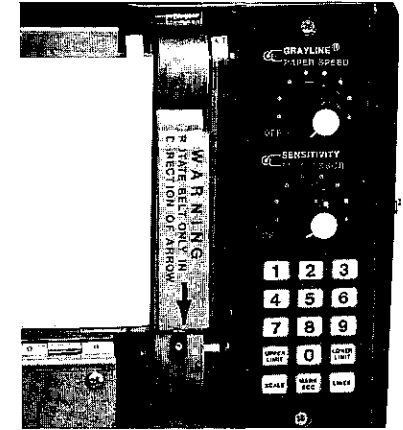

Figure 34
10. Push the platen assembly back to its operating position. Be sure it engages the catch inside the top of the case. (See Figure 34.)